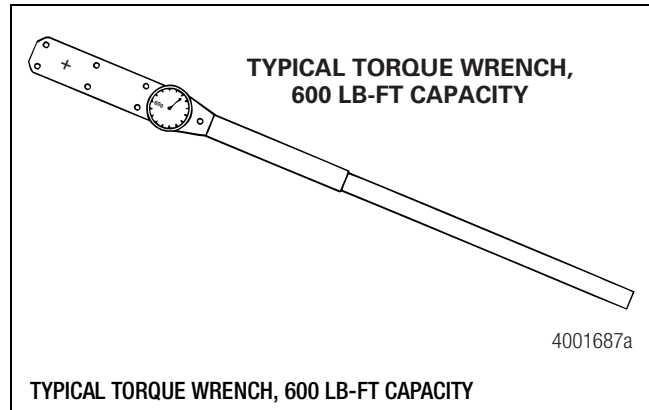

Figure 5.1
7. Ensure that fasteners are tightened in the correct tightening sequence and to the correct torque specifications. Use a torque wrench to tighten the fasteners. Figure 5.1.